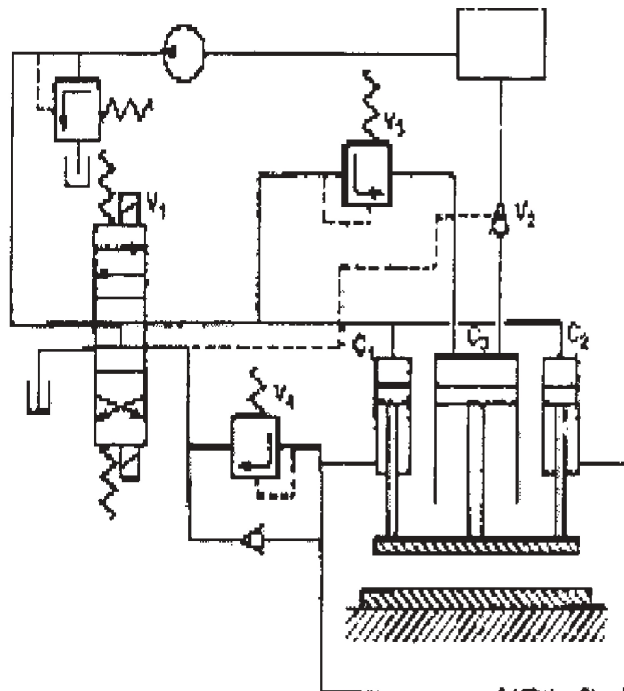

Fig.1
c) Analyze the circuit shown in Fig. 1 and label the components. [6]